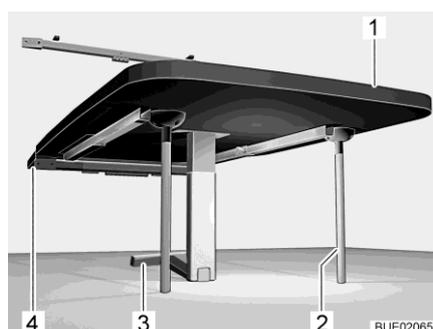

Fig. 138 Suspension table as bed foundation
- Lift the front of the table top (Fig. 138,1).
- Fold the lower part of the fold-out leg (Fig. 138,3) by 90°.
- Insert two additional support legs (Fig. 138,2) on the table top's bottom side.
- Insert and lock the table in the lower retainer (Fig. 138,4).